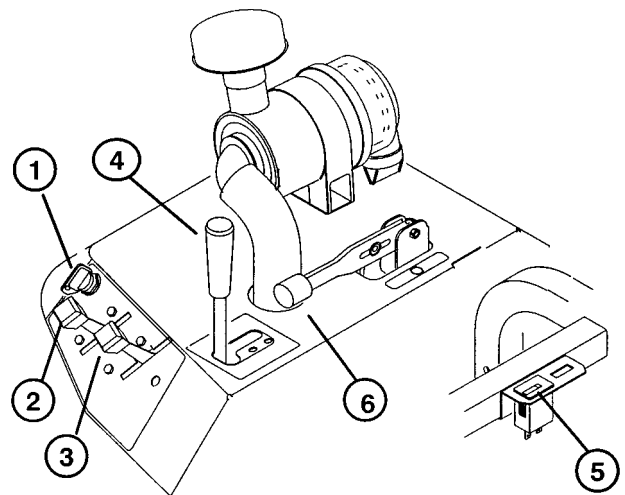

Figure 7
**Ignition Switch** (Fig. 7)—The ignition switch, used to start and stop the engine, has three positions: OFF, RUN and START. Turn the key clockwise—START position—to engage the starter motor. Release the key when the engine starts. The key will move automatically to the RUN position. To shut the engine off, turn the key counterclockwise to the OFF position.
**Choke Control** (Fig. 7)—To start a cold engine, close the carburetor choke by moving the choke control forward to the “CLOSED” position. After the
**Throttle Control** (Fig. 7)—A lever connects to and operates the throttle linkage to carburetor. The throttle control has two positions: SLOW and FAST. Engine speed can be varied between the two settings.
**Hour Meter** (Fig. 7)— Shows the total hours of machine operation. The hour meter operates whenever the key switch is turned to “ON”.
**Lift Lever** (Fig.7)—To raise the implement, pull the lever up; to lower implement, push the lever down. When the desired position is attained, release the lever and it will return to neutral.
**Parking Brake** (Fig. 7)—To engage the parking brake, pull back on the lever. To disengage the brake, push the lever forward.